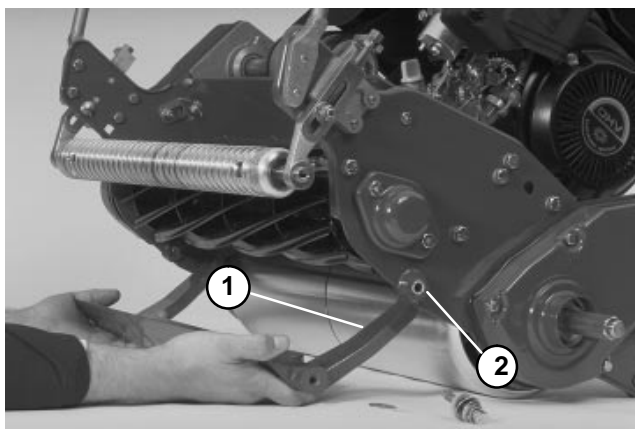

Figure 24
5. Remove bedbar from the mower. Keep metal washers and discard nylon washers. Remove and discard both nylon bushings (Fig. 24).